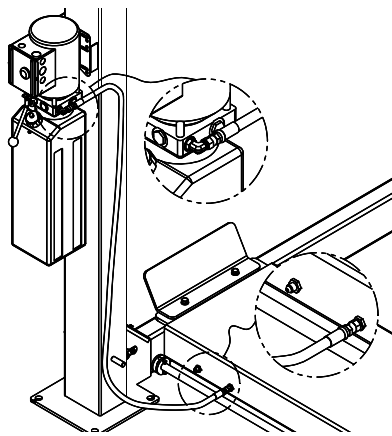

Fig 15 – Supply Line, Side
- 33) For installs with the power unit on the side of the column rout the supply line to the bulkhead shown in Fig 15.